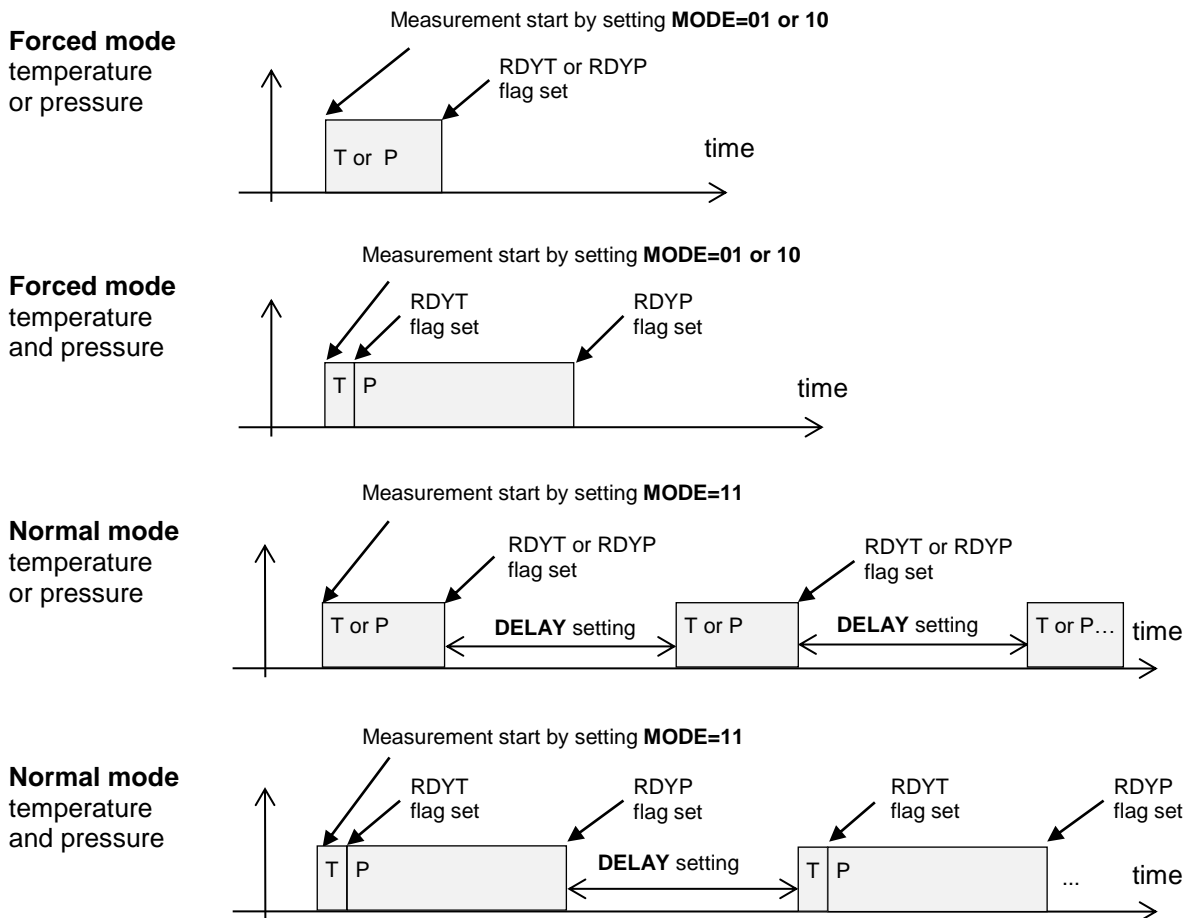

Figure 2. Forced and normal mode measurement and status register RDYT and RDYP flag update timing (T=temperature, P=pressure)
applied to both temperature and pressure signals. Selected measurements are performed during the measurement period. To minimize current consumption the device enters standby mode for the time between measurements during which only the internal clock oscillator is running. The standby mode time is defined by a DELAY bit setting in the Configuration register (EE/6E_{HEX}). There are eight delay settings available; 0.5ms, 62.5ms, 125ms, 250ms, 500ms, 1000ms, 2000ms and 4000ms. The normal mode measurement cycle is a sum of selected measurements' A/D conversion time and the delay setting. See figure 2 for normal mode measurement cycle illustration. The normal mode is recommended in applications where IIR filter is used like for filtering short-term sensor signal disturbances.
MAS6505 A/D conversion and result status can be monitored from Status register (F0_{HEX}) which contains RDYT and RDYP flags to indicate when there are unread temperature (T) and/or pressure (P) measurement results available in the pressure and temperature result registers. See figure 2 and table 7. The corresponding RDYx (x=T or P) flag is set (1) when a new measurement is ready for a read. Reading the measurement result will clear (0) the corresponding RDYx (x=T or P) flag.